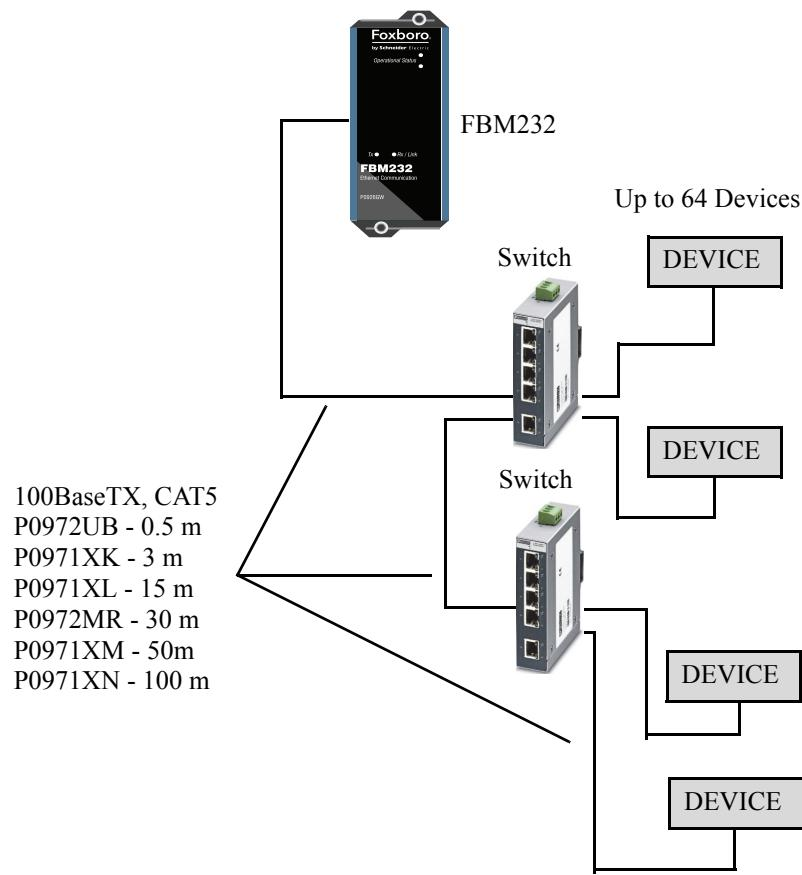

Figure 4-44. FBM232 Connection to 5 Port Switch
2. Connect the cabling as shown in Figure 4-44. The cable used is a shielded twisted pair between the FBM232, the switch, and the device.